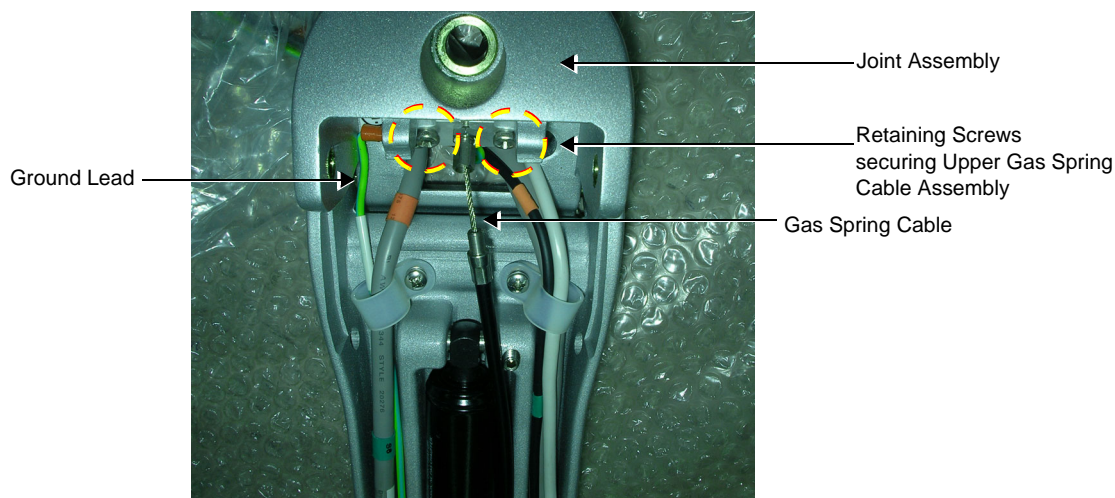
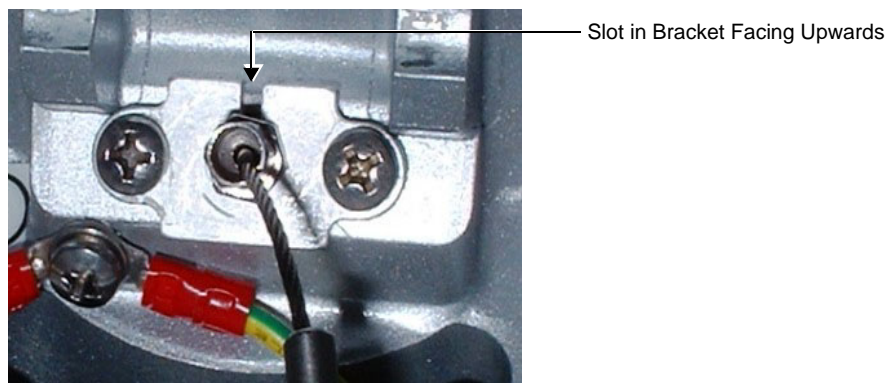

Figure 8-249 Dismantling the Upper Gas Spring Cable Assembly
Figure 8-253 Gas Spring Cable Bracket showing Cable Slot
- 6.) Dismantle the Upper Gas Spring Cable Assembly by removing the two securing screws and bracket - Figure 8-249.
- 5.) Return the gas spring cable to its position (see Figure 8-249) with its bracket - the slot in the bracket must face upwards - Figure 8-253.